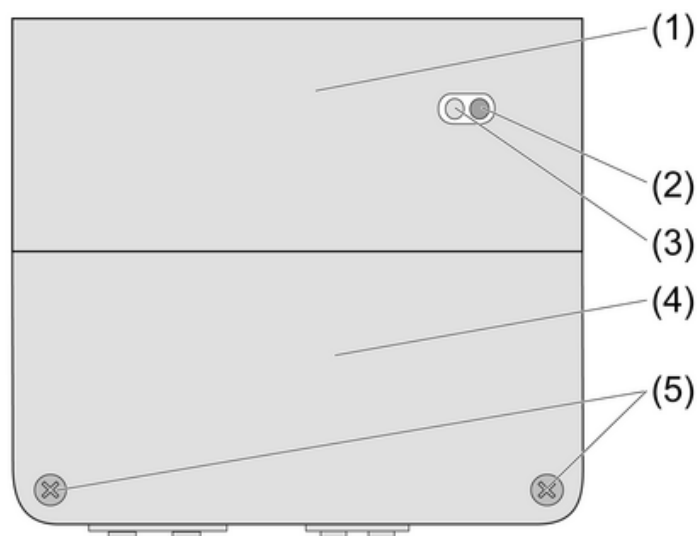

Figure 1
The red Prog LED (2) flashes (Figure 1).